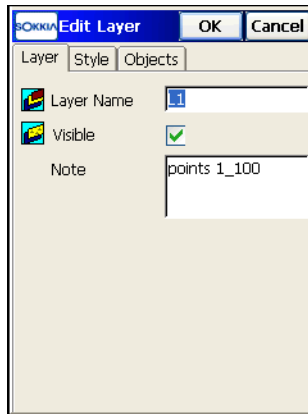

Figure 6-23. Edit Layer
6. To edit a layer, either double-tap the layer or select it on the *Layers* screen and tap **Edit**. On the *Edit Layer* screen (Figure 6-23 on page 6-18), change the layer's parameters as needed and tap **OK**.
- On the *Layer* tab, enter a new layer name, check and enable the *Visible* box to show the layer on the map, and enter any additional information in the *Note* field (Figure 6-23 on page 6-18).